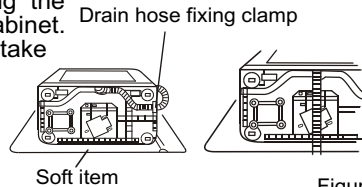

Figure 2
- Put soft items on the ground. Lean the machine down gently with the front surface facing the ground. Take off the drain hose from the cabinet. Dismantle the drain hose fixing clamp and take the hose out of the fixing groove. (See to Figure 2).